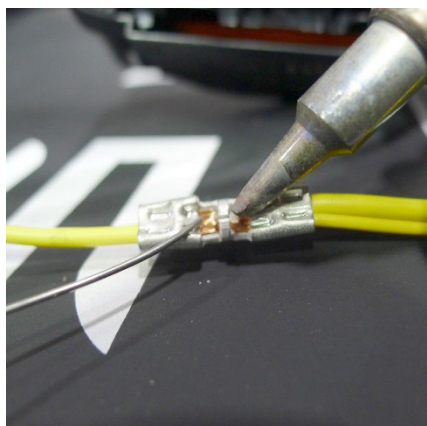

Figure 25 – Crimp wire and solder barrel crimp
25. Make a butt splice repair to attach the yellow power terminal wire to the barrel crimp of the jumper (Figures 25, 26, and 27).